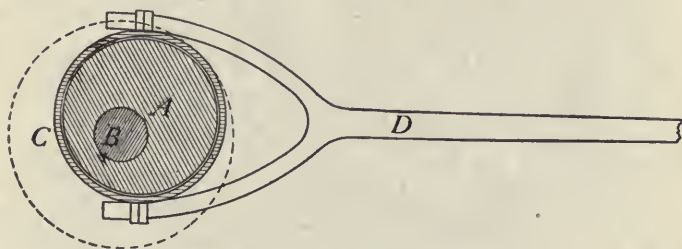

FIG. 163.—An eccentric.
transformed into *rotary* motion, just as in the sewing-machine the back-and-forth motion of the treadle produces rotary motion of the large wheel. Upon the shaft of the steam engine is fastened an *eccentric* (see Fig. 163) which
14. An eccentric (Fig. 163), is a round disc mounted a little to one side of its center, *A*, on the engine shaft *B*. A band, *C*, on the circumference of the disc is connected by a rod, *D*, with the slide valve in the steam chest. How is the rotary motion of the shaft changed into a backward and forward motion of the slide valve?